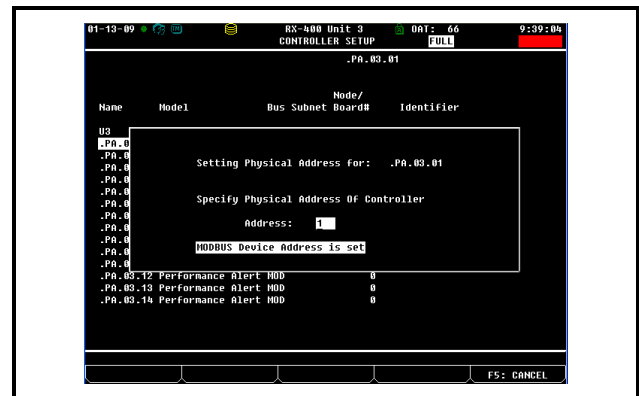

Figure 5-3 - Set Address for PerformanceAlert
5. The E2 will prompt you to enter the MODBUS address of the PerformanceAlert module you are setting up. Enter the address and press e. The message "MODBUS Device Address is set" will appear at the bottom of the dialog box (*Figure 5-3*).